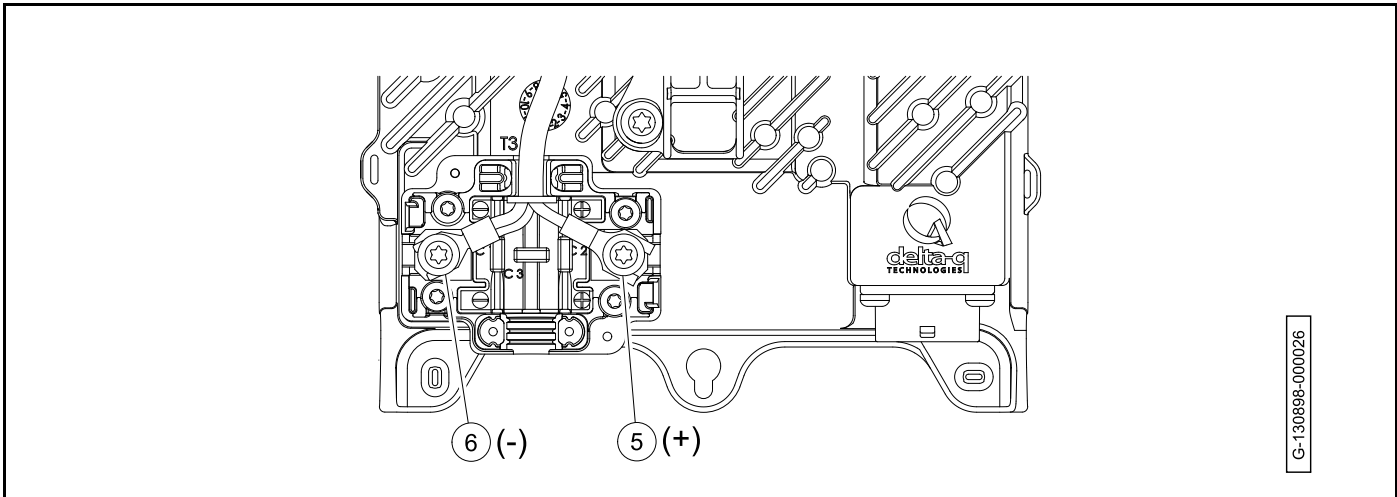

Figure 15-19 Wire Installation
1. Attach the white DC cord wire to the positive (+) terminal (5) (**Figure 15-19, Page 15-34**).